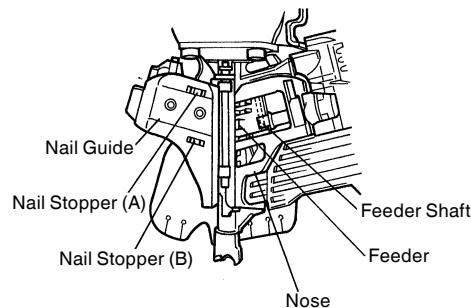

Fig. 22
- (2) Open the nail guide and remove dust, etc., as shown in Fig. 22. Apply lubricant to the sliding groove of the feeder and feeder shaft. Check nail stopper (A) and nail stopper (B) slide smoothly by pushing them with your finger.